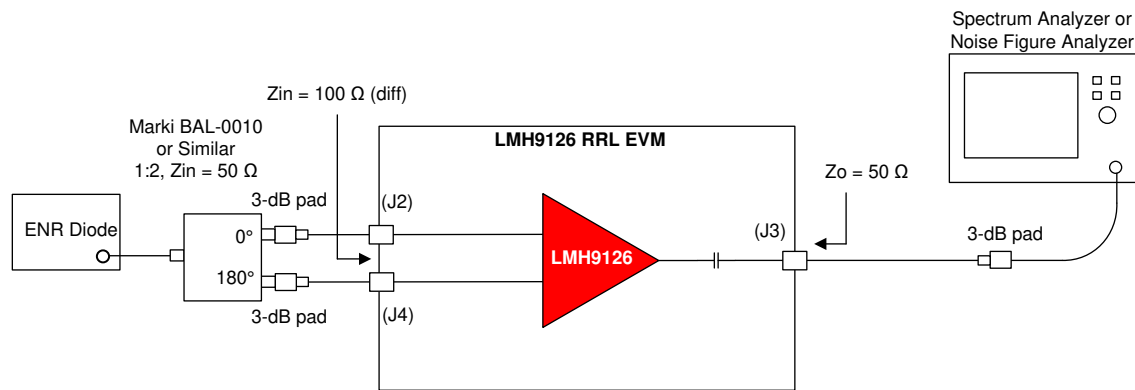

Figure 10. Noise Figure Test Setup
1. The traditional Y-factor method can be used for the NF measurement using a Noise Diode and a spectrum analyzer (or a Noise Figure Analyzer), as Figure 10 shows.